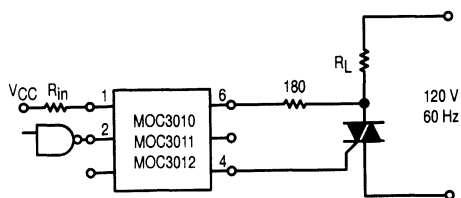

Figure 7. Resistive Load
- 2. This is static dv/dt. See Figure 7 for test circuit. Commutating dv/dt is a function of the load-driving thyristor(s) only.